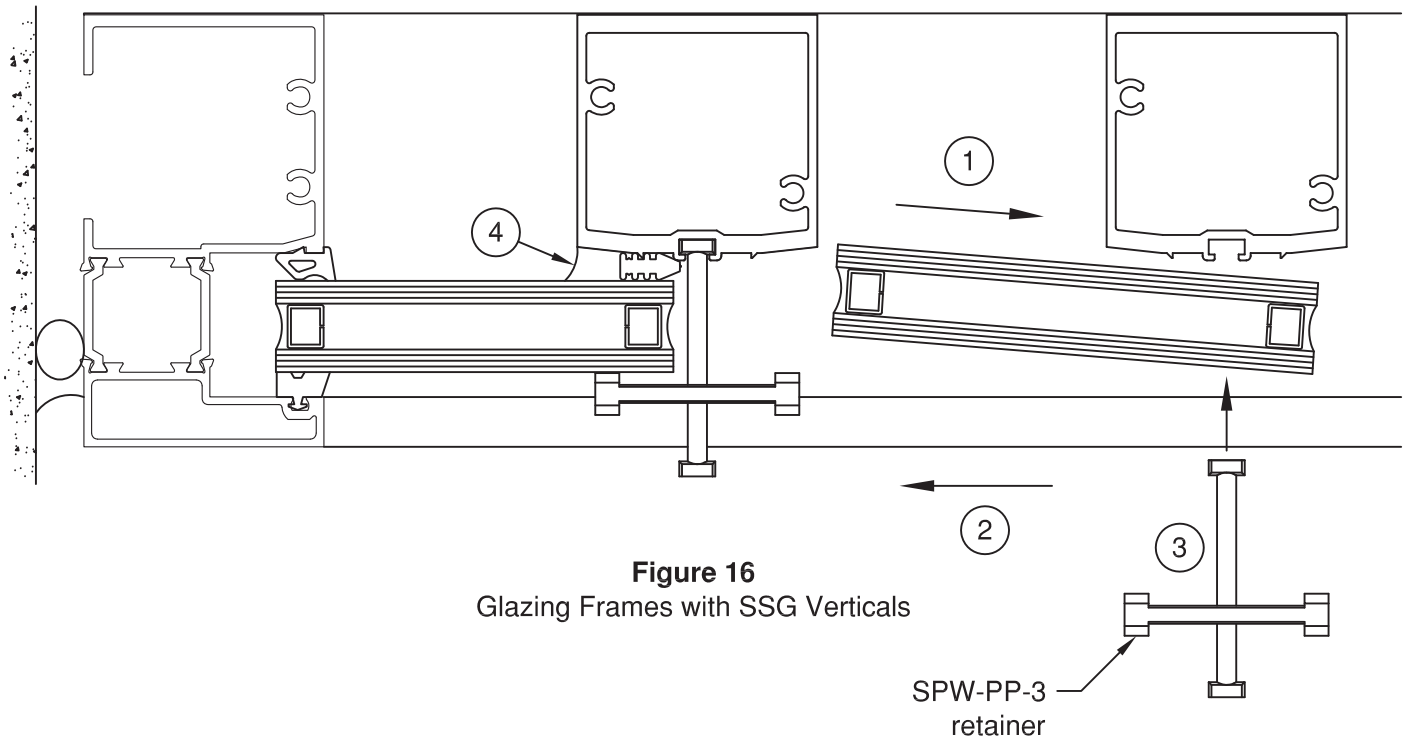

Figure 16
- 4.3 Set glass in opening. Ensure that glass bite is equal on all sides. For frames with SSG verticals, glass can be set from the interior. **SEE FIGURE 16, page 13** for glazing sequence. **CAUTION:** Be certain that glass is placed firmly against exterior gasket to ensure a proper seal and to avoid binding of the glass on the setting block.